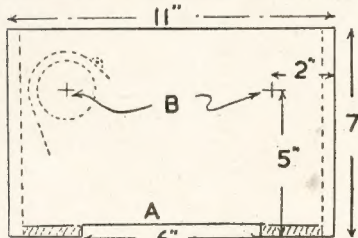

Fig. 1—Detail of box sides
The case is made of wood. The sides are shown at Fig. 1 and can be cut from  $\frac{1}{2}$  in. plywood or fretwood. At the bottom, a strip  $\frac{3}{4}$  in. wide is sawn out, as at (A) for the carrier to enter. At about the spots shown at (B) small screw holes are bored to fix the mounts on which the two lamps will be fitted. An
Across the open bottom of the case, nail  $\frac{3}{4}$  in. by  $2\frac{1}{2}$  in. strips of wood, one each side of the carrier opening, shown by shaded lines in Fig. 1. The ventilation holes are shielded with bent strips of tin, as at (C) nailed over. These trap the light from escaping and at the same
Two tabs are allowed for, one each side, for fixing the reflectors inside the case. Bend the tinplate to about the curve shown in inset, then bend the tabs or part of them, to right angles, and screw the reflectors over the lamps at the position shown in Fig. 1. In this diagram only one reflector is shown, the second one is opposite, of course.